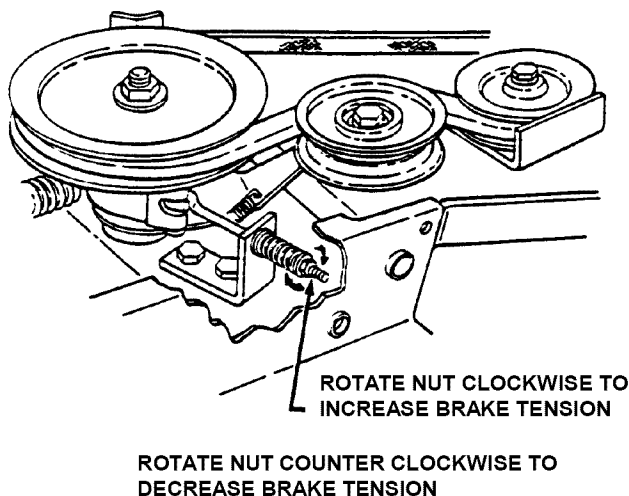

FIGURE 4.4
3. If dimension is greater than 1/4", rotate nut clockwise to increase brake tension. If dimension is less than 1/8", rotate nut counter-clockwise to decrease brake tension. See Figure 4.4.